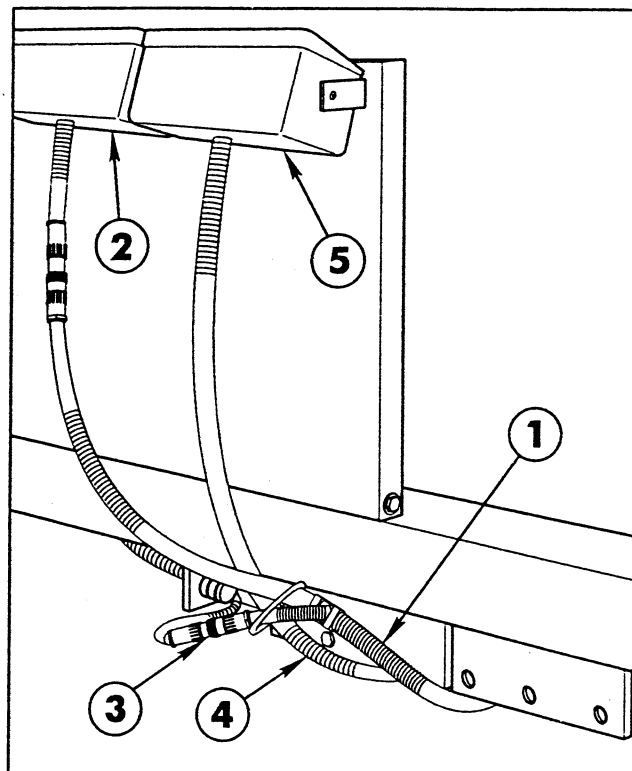

FIG. 11
2. Connect the single plug to the Cable from the Monitor Control Box, as shown in FIG. 11.
1. Route the Carrier Control Wiring Harness through the ring on the Relay Mounting Bracket as shown in FIG. 11.